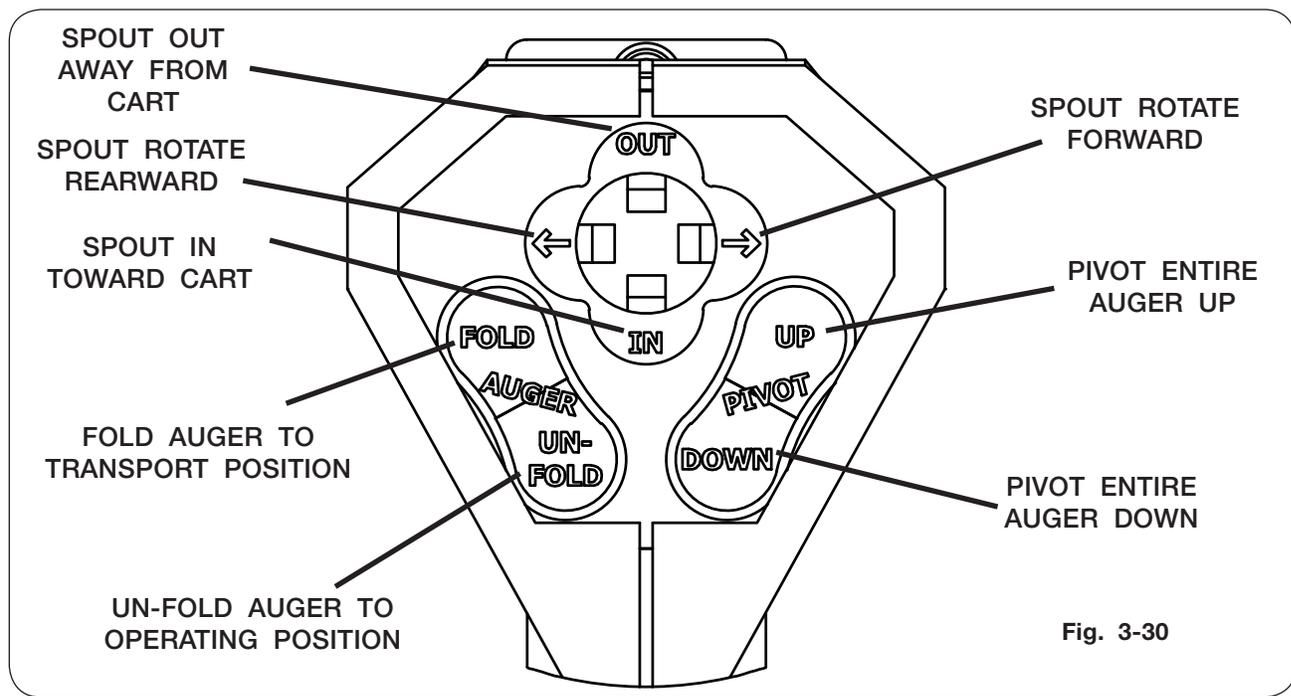

Fig. 3-30
3. To fold auger out from transport to operating position, push down the auger unfold button on joystick face until the upper and lower auger are engaged and fold linkage is over center. See Fig. 3-30.
4. To pivot spout OUT away from cart, push hat switch toward OUT. Hold the switch until desired position is achieved. See Fig. 3-30.
5. To pivot spout IN toward cart, push hat switch toward IN. Hold the switch until desired position is achieved. See Fig. 3-30.
6. To pivot the entire auger UP, press and hold the auger pivot UP button until the desired height is achieved. See Fig. 3-30.
7. To pivot the entire auger DOWN, press and hold the auger pivot DOWN button until the desired height is achieved. See Fig. 3-30.
8. To pivot the spout FORWARD, push hat switch RIGHT. Hold the switch until desired position is achieved. See Fig. 3-30.
9. To pivot the spout REARWARD, push hat switch LEFT. Hold the switch until desired position is achieved. See Fig. 3-30.